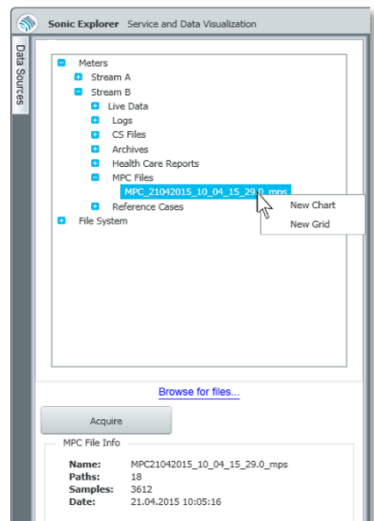

Figure 14-1 View MPC Files
- ▶ Right-click on your desired MPC File and select **New Chart**. See Figure 14-1.